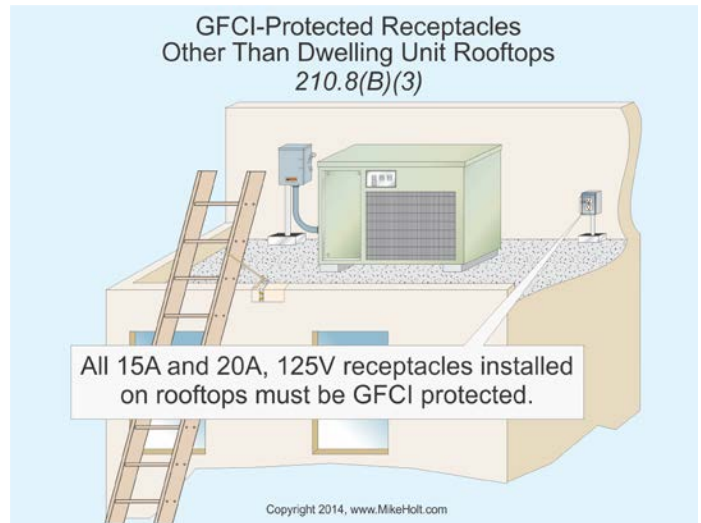

Figure 210-38
(3) Rooftops. All 15A and 20A, 125V receptacles installed on rooftops must be GFCI protected. *Figure 210-38*